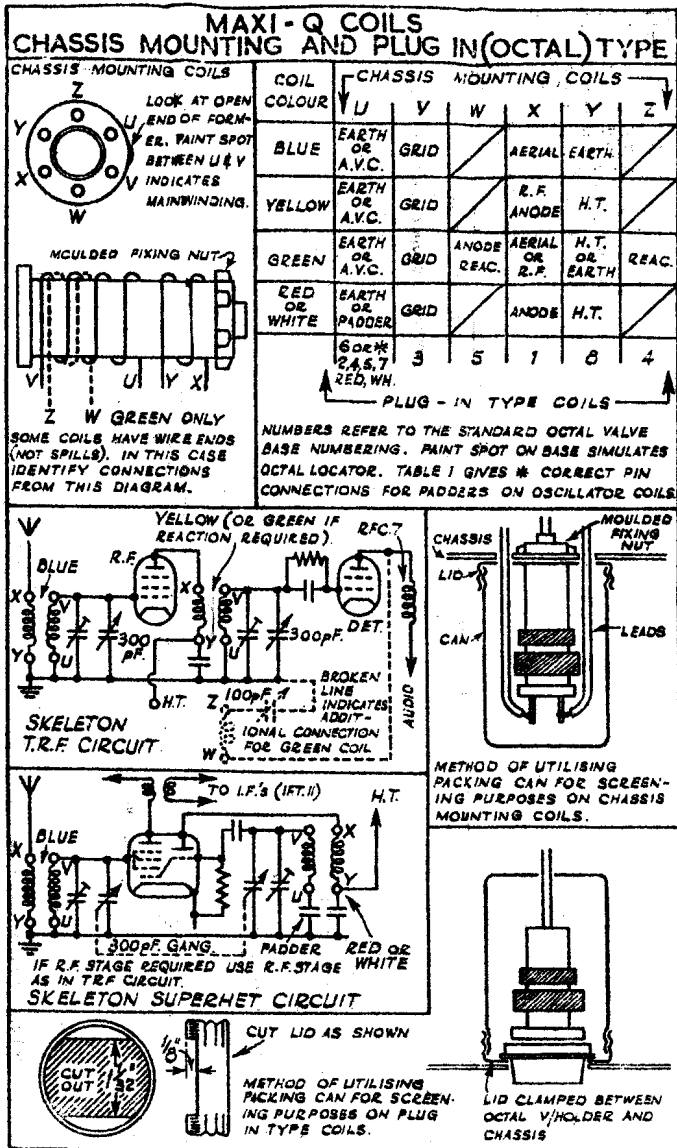

Figure 11
- 6: Try different coils i.e. Denco (Clacton) Ltd Maxi-Q plug in types. See Figure 11, reproducing their circuit suggestions and data information.